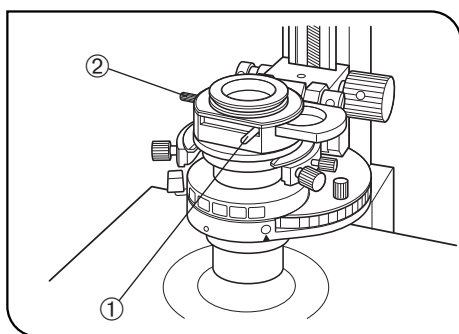

Fig. 67
(Fig. 67)
2. Slide the polarizer detaching lever ① on the IX-LWPO polarizer unit to engage the polarizer in the light path. (Fig. 67)
4. Slide the polarizer rotation/clamping knob ② on the polarizer unit horizontally in the counterclockwise direction around the axis until the position with which the field of view is darkest. (Fig. 67)